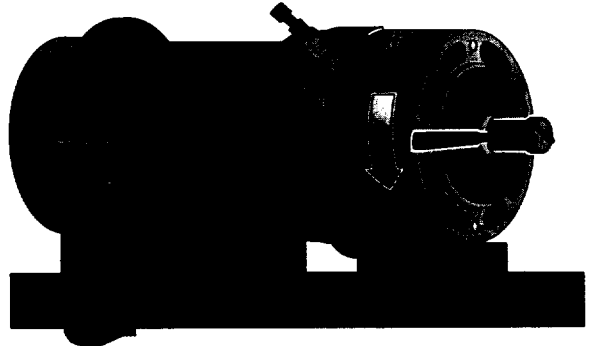

Figure 20
8. Hold the motor shaft with pliers or vice grips through the opening in the pump adapter. Unscrew the impeller nut off the end of the shaft (see Figure 20).